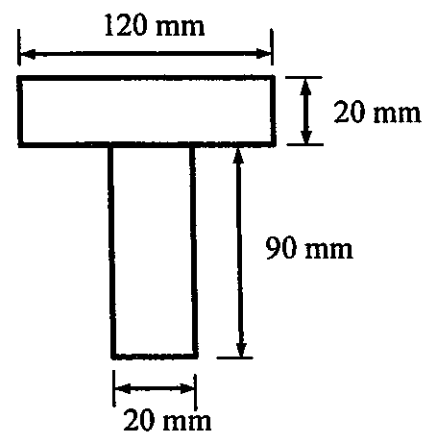

Figure 3(b) / Rajah 3(b)
- (b) A simply supported beam with a cross-section is shown in Figure 3(b) below. Determine the value of Neutral Axis and Second Moment Area of the beam.